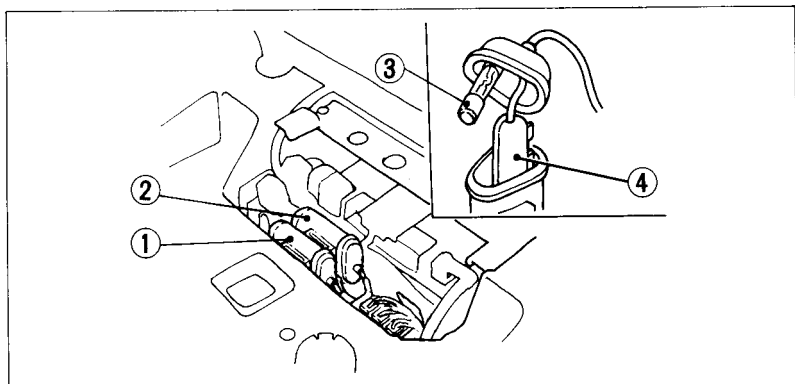

Fig. 4-19
As illustrated in Fig. 4-19, the main fuse (1), the sub fuse (2) and the spare fuse (3) are located in the battery compartment. Both the main fuse and the sub fuse are 15 A. (The main fuse is connected to the red wire.)